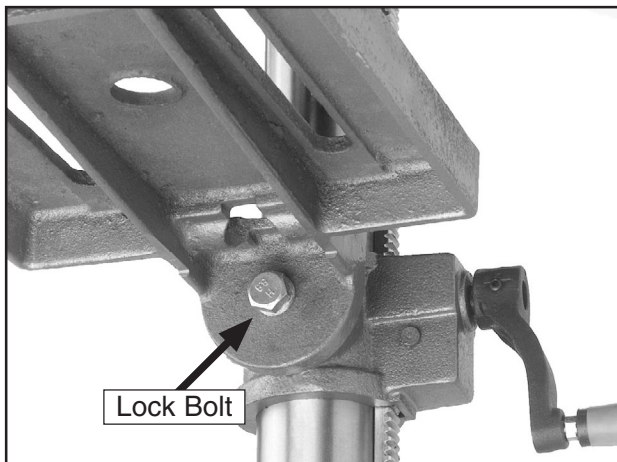

Figure 25. Angle adjustment bolt (G7945).
2. Loosen the lock bolt (**Figure 25**) using the included wrench and tilt the table (G7945) or the column support arm (G7946) to the desired angle.